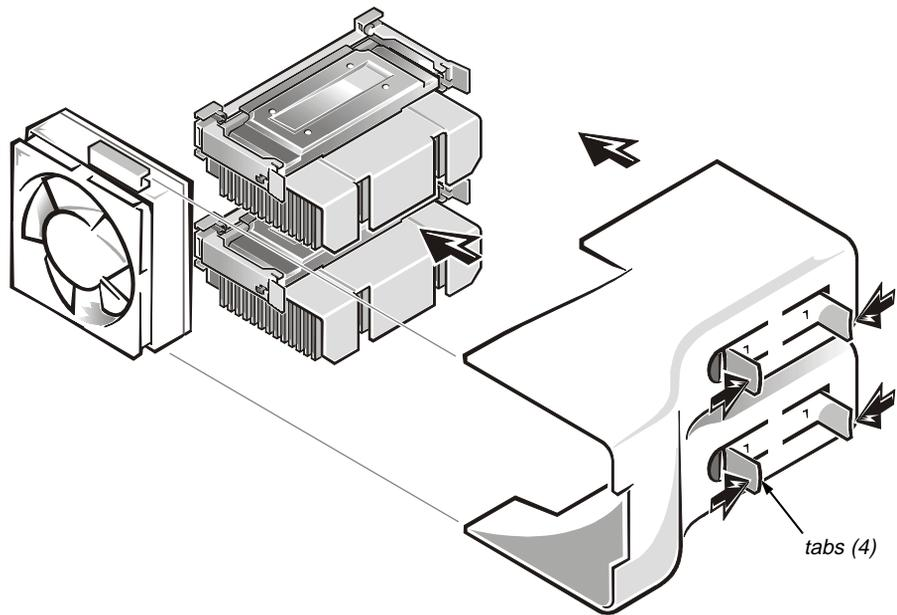

Figure 5. Installing the Cooling Shroud Assembly (PowerEdge 1300)
1. Carefully position the shroud into place with the square opening over the bulk-head fan and the top of the shroud's other end resting over the microprocessors, as shown in Figure 5.